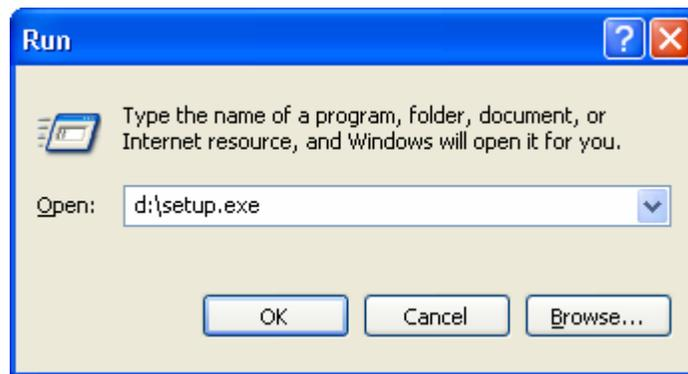

Figure 2-1. Windows Run Dialog Box
Figure 2-1. Windows Run Dialog Box.....	2-2
3. The installation program should start up automatically, in which case you may skip to step 4. Otherwise, select **Run** from the **Start** menu. In the **Run** dialog box, type “D:\Setup.exe” (where D:\ is the CD-ROM drive) as shown in Figure 2-1.